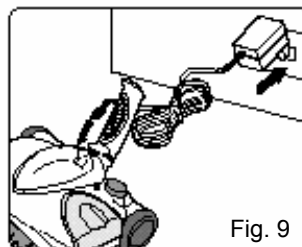

Fig. 9
- 1a. Connect the charger plug to the charging jack or hole on the back of the sweeper. Plug the the charging adapter into the wall outlet. (120V.,60Hz.) Use only TechWorld Charger AD-0920-UL, rated output DC 9V,200mA. (Fig. 9),